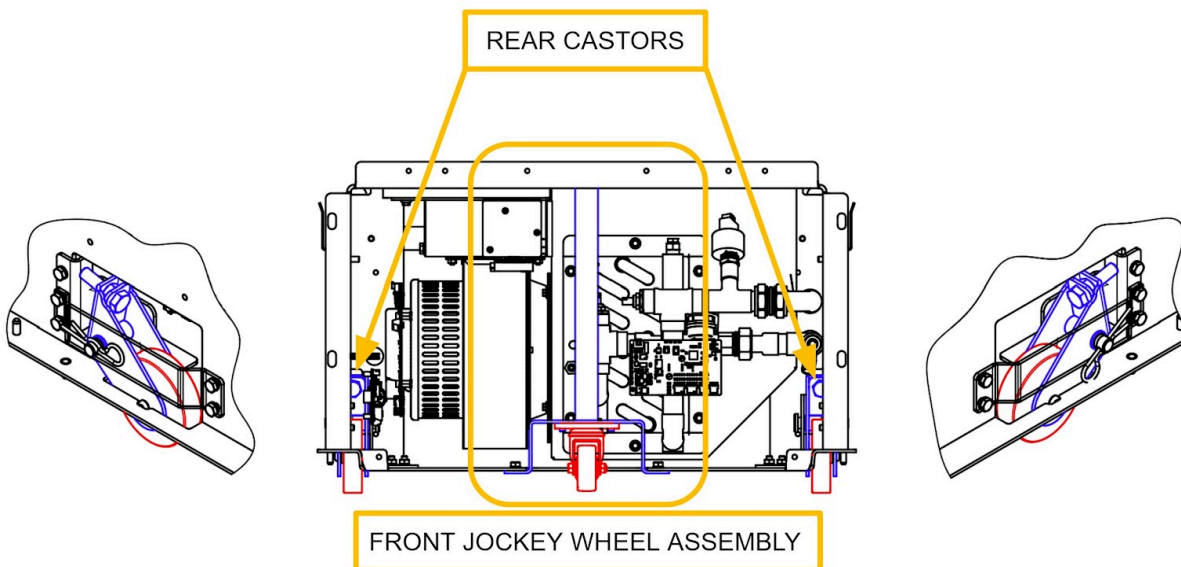

Figure 8: Castor deployment and retraction mechanism
- Retractable castors can be deployed for final positioning of the ZEB®. See **Figure 8**